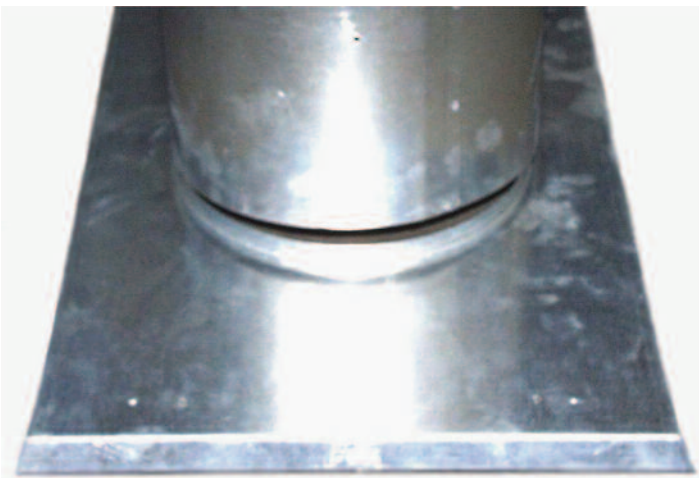

Fig. 10
11. Mount the drafthood onto the adaptor plate lip inside the heater. See **Figs. 10 & 11**.